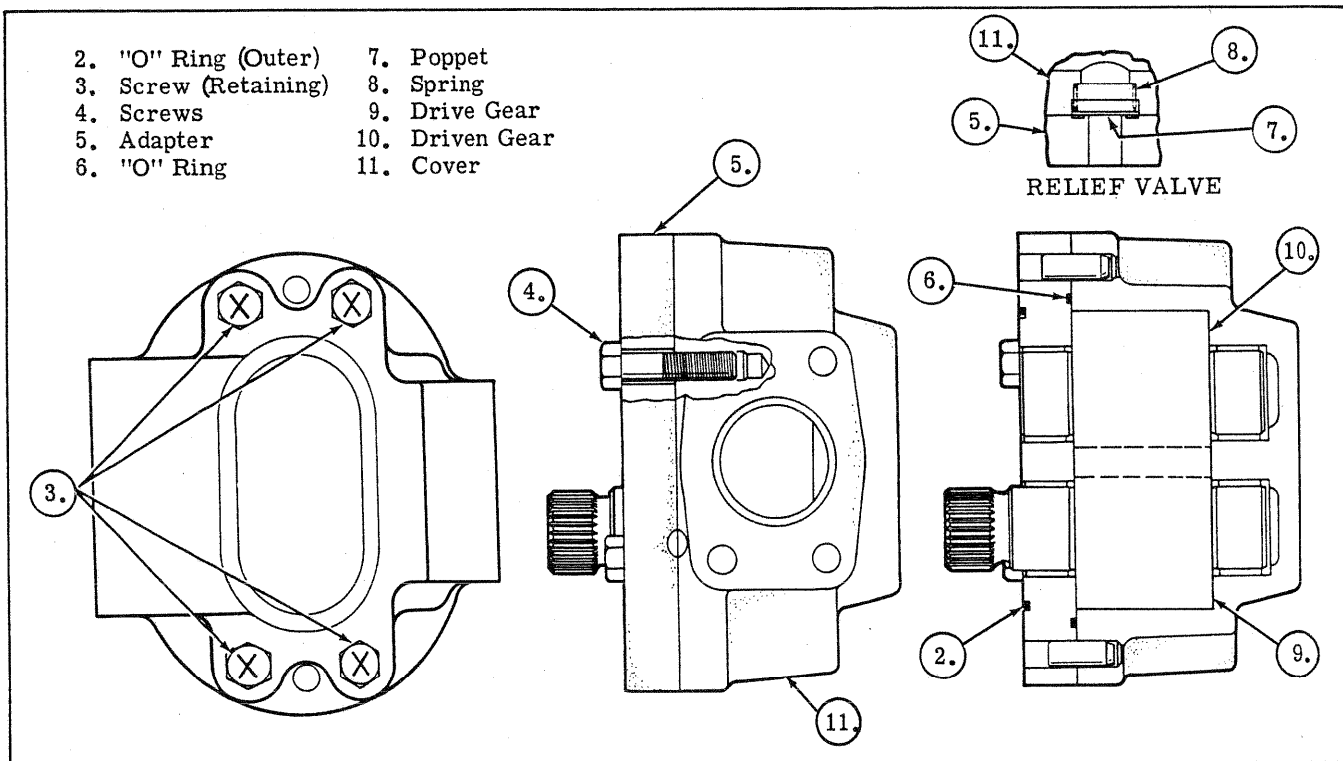
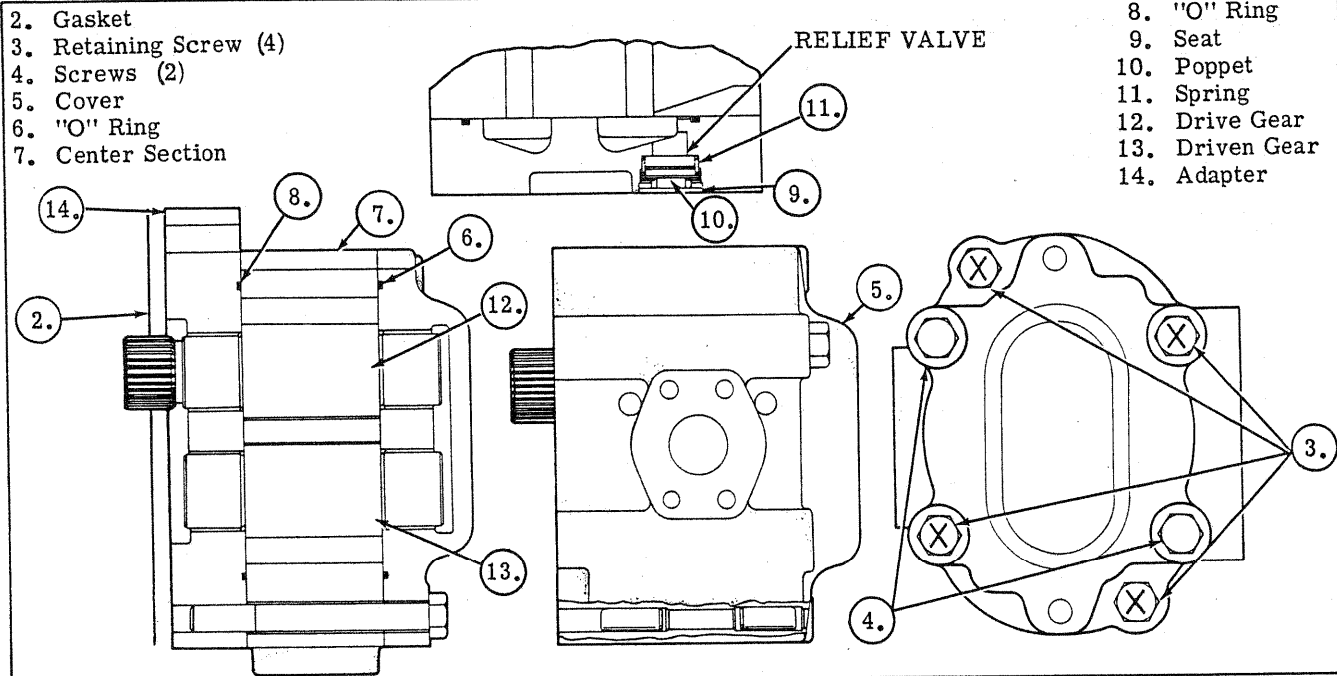

Figure 8. PVD45 Charge Pump
Figure 9. PVD80 and PVD120 Charge Pump
Repair of the PVD pump will generally not require disassembly to the extent described here. The sequence can also be used as a guide for partial disassembly. In general, disassembly is accomplished in the item number sequence shown in Figures 8, 9 and 10. Special procedures are included in the following steps.
4. Remove four retaining screws (3) located in charge pump cover. See Figure 8 for PVD45 units and Figure 9 for PVD80 and PVD120 units. Remove screws indicated by an "X".
5. Slide the charge pump away from the valve block. Discard the outer "O" ring (2) on PVD45 units. Discard the gasket
7. Remove four screws (4) that connect adapter (5) to cover (11) on the PVD45 unit, and remove adapter (5) from cover (11) exposing the gears. Discard "O" ring (6).
8. Remove the internal relief valve poppet (7) and spring (8) from their location beneath adapter (5).
The following steps (11) through (15) pertain to disassembly of the PVD80 and PVD120 units. Refer to Figure 9.
11. Install the charge pump into a vise with the jaws holding adapter (14) and the cover (5) pointing up.
12. Remove two retaining screws (4) from cover (5) and separate the cover from the balance of the pump. Discard "O" ring (6).
13. Remove center section (7) from adapter (14). Discard "O" ring (8). *Do not* remove relief valve seat (9) from adapter (14) unless inspection reveals a possible malfunction. Use a small tool to move poppet (10) against spring (11). The poppet should return to the seated position upon release of the tool.
14. Remove drive gear (12) and driven gear (13) from adapter (14).
2. Assemble the charge pump as follows: Refer to sectional view Figure 8 for PVD45 units and Figure 9 for the PVD80 and PVD120 units.
3. Place cover (11) in the jaws of a vise with pocket pointing up. Figure 8 shows the pump assembled in the right hand configuration. Reverse the location of the drive and driven gears (9 and 10) for left hand rotation.
4. Install drive and driven gears (9 and 10) into charge pump cover (11). Make sure gears are located to provide proper shaft rotation for the unit.
5. Lubricate relief valve spring (8) and poppet (7) with system fluid. Assemble spring in place within cover (11) and place poppet on top of spring.
6. Lubricate journals in adapter (5). Install a new internal "O" ring (6). Orient adapter (5) to align pins and relief valve hole with cover (11). Push relief valve down into cover. Insert a cover screw through adapter hole and hold the poppet in position until adapter is in place. *Do not* pinch "O" ring (6). Check movement of poppet with screw after adapter (5) is in place.
7. Thread four screws (4) through adapter (5) into cover (11). Tighten the screws to 35-45 lb. ft. (47.2-60.8 N.m.)
8. Drive shaft must turn freely by hand after assembly. Install a new "O" ring (2) into adapter (5). Cover the unit to prevent dirt contamination.
9. Place the PVD80 or PVD120 cover (5) in the jaws of a vice with interface pointing up. Figure 9 shows the pump assembled in the right hand configuration. Reverse the location of the drive and driven gears (12 & 13) for left hand units.
10. Install the drive and driven gears (12 & 13) into charge pump cover (5). Make sure of proper shaft rotation for the unit. (See Figure 9.)
11. If the relief valve was removed, install spring (11), poppet (10) and seat (9) as shown in Figure 9. Press seat (9) in place within adapter (14). Check movement of poppet (10) after installation.
12. Install a new "O" ring (6) into the groove of cover (5).
13. Install center section (7) over the gears. Right hand units will have the inlet positioned as shown in Figure 9. Flood gears with system fluid. *Do not* pinch "O" ring (6) during installation.
14. Install "O" ring (8) into adapter (14) and lubricate journals. Orient the adapter to align pins and then install over drive and driven gears (12 & 13) and up against center section (7). Alignment pins will hold adapter (14) and center section (7) in the proper position. *Do not* pinch "O" ring (8) at assembly.
15. Thread the two retaining screws (4) through cover (5) into adapter (14) hand tight. Turn the pump over and place in the vise with the jaws connected to adapter (14). Tighten the two screws to 118-127 lb. ft. (160-172 N.m.).